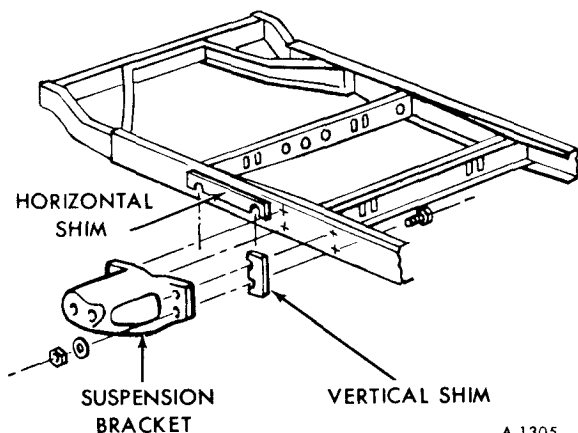

Figure 46-Rear Wheel Shim Location
If toe-in is not correct it must be shimmed as shown in Figure 46. Follow this procedure for adjustment.
3. Insert proper shim as shown in Figure 46.
Camber is adjusted by shimming as shown in Figure 46. Following the same shimming procedure as that used before to set toe-in.